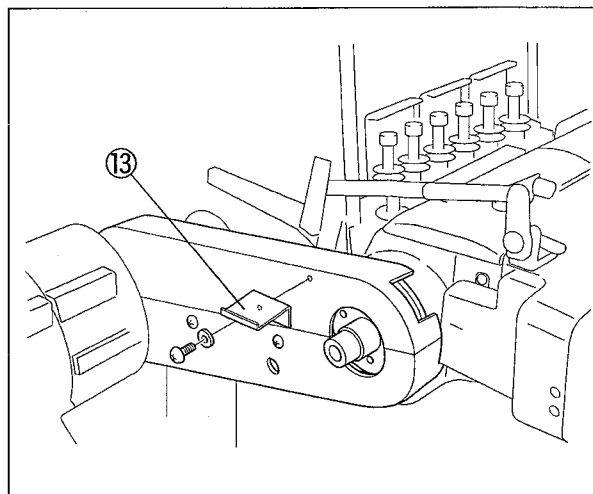

Fig. 2-25
Set the positioning plate^⑬ on the belt cover(upper). Set the synchroniser on the machine pulley and fix it with the positioning plate^⑬ (see Fig.2-25).